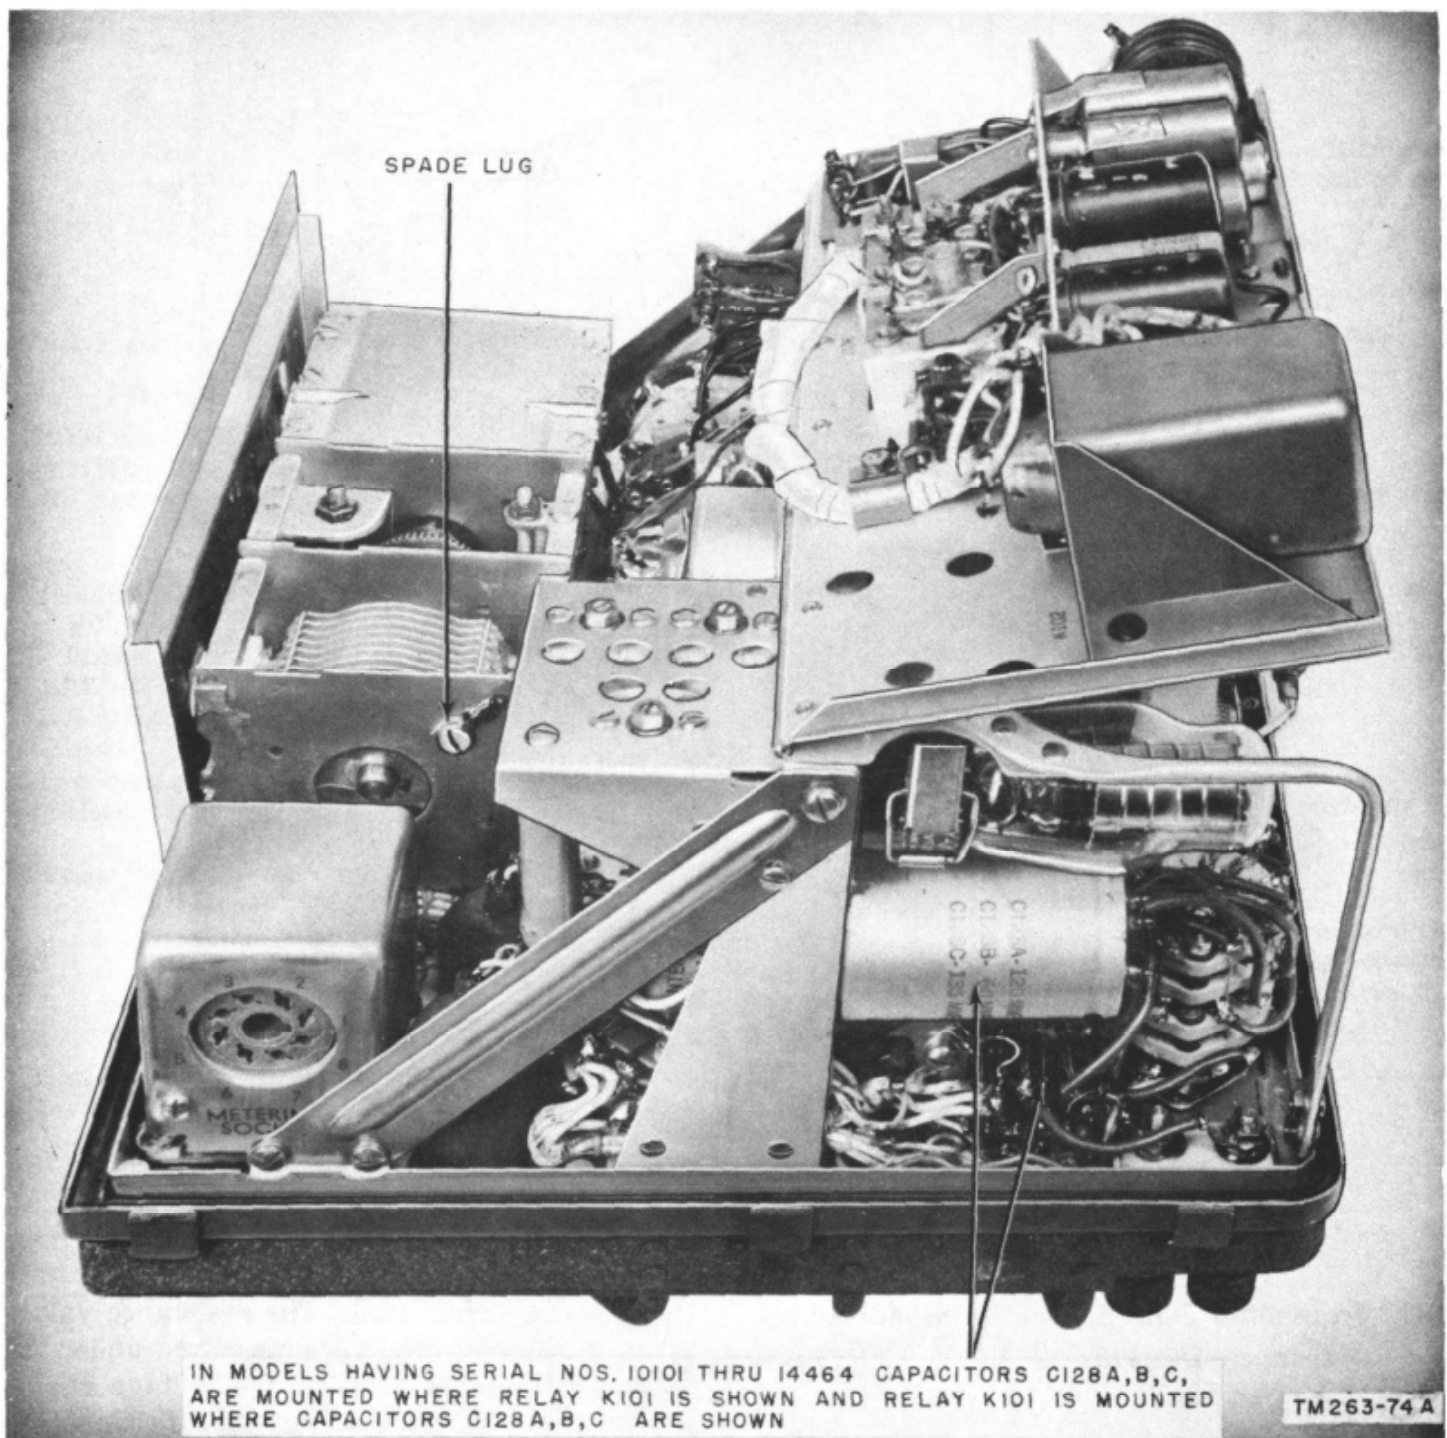

Figure 119. Back panel of transmitter shown swung up to expose tuning capacitor.
c. Swing up the hinged back panel of the transmitter to expose the main tuning capacitor as in figure 119.
d. Remove the spade lug on the side of the tuning capacitor shown in figure 119.